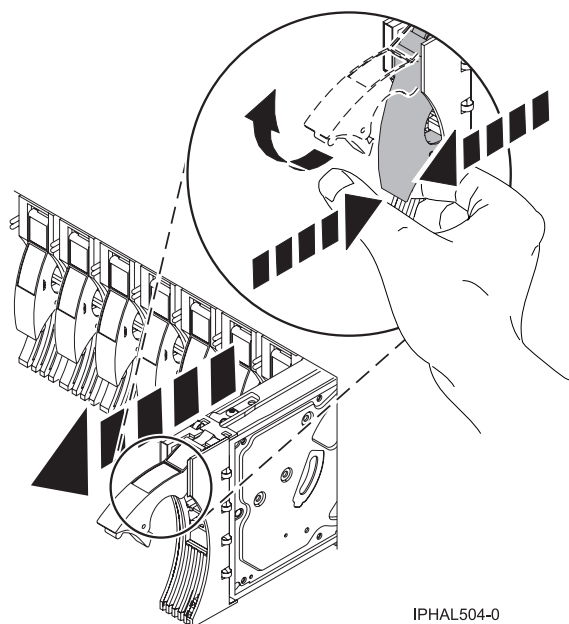

Figure 13. Removing a disk drive from the system
3. When the identify LED turns on solid, unlock the drive handle by squeezing it and pulling it out toward you, as shown in Figure 13. If the handle is not all the way out, the disk drive or solid-state drive cannot slide out of the system or out of the expansion unit.